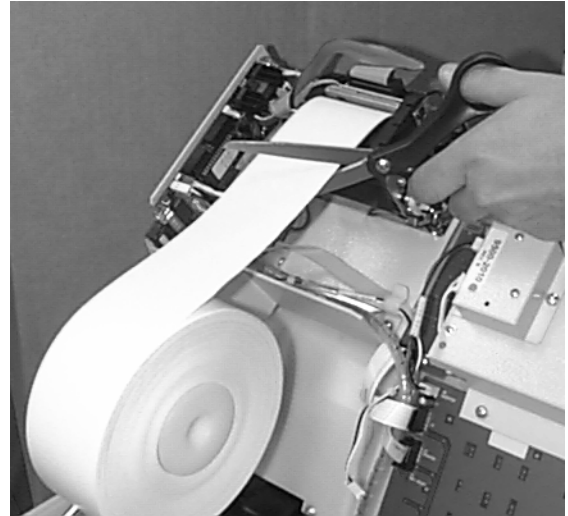
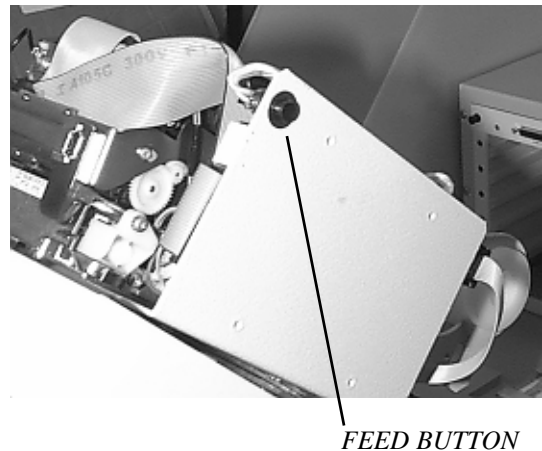

Figure 6-2. Cut any paper between the roll and the printer feed path with scissors.
Figure 6-3. The PAPER FEED BUTTON.
- a. If paper remains on the roll, cut the paper between the roll and the printer with a pair of scissors as shown in Figure 6-2. Use the RECEIPT PRINTER PAPER FEED BUTTON (Figure 6-3) to feed the paper through the paper path until all paper comes out the front of the printer.